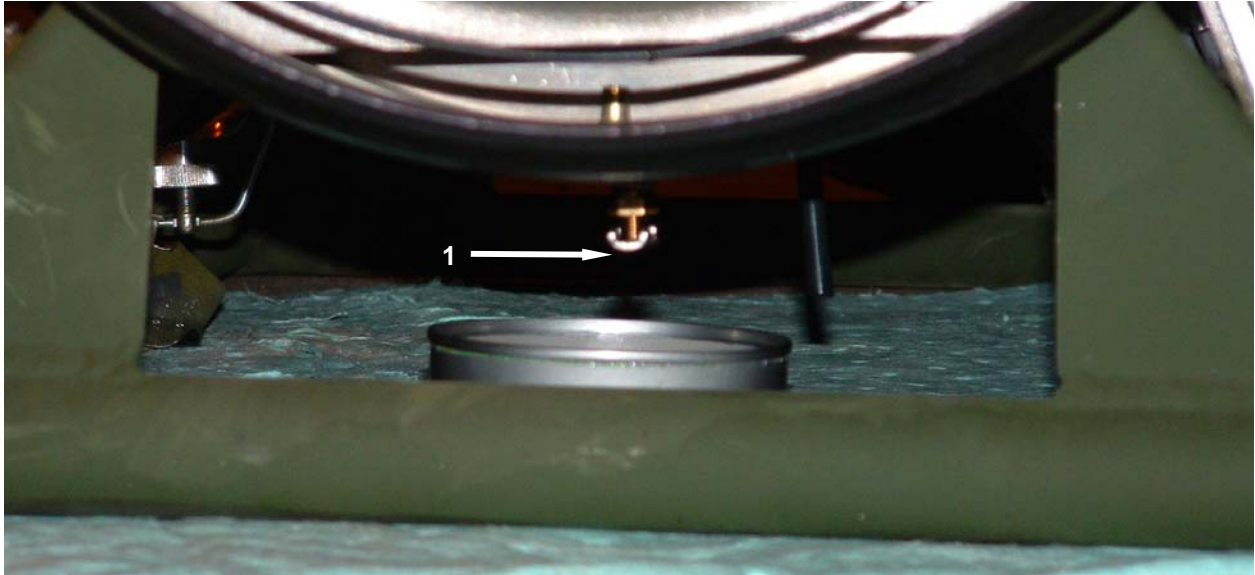

Figure 3. Replace the Float Assembly – Fuel Drain.
1. Place a petroleum absorbent mat under the fuel drain valve (**Figure 3, Item 1**).
2. Open drain valve (**Figure 3, Item 1**) to drain fuel into an approved container.
3. Remove the valve core from the drain valve (**Figure 3, Item 1**).
4. Remove the nut (**Figure 3, Item 2**) retaining the drain valve (**Figure 3, Item 1**), and pull the drain valve clear of the lower housing assembly.